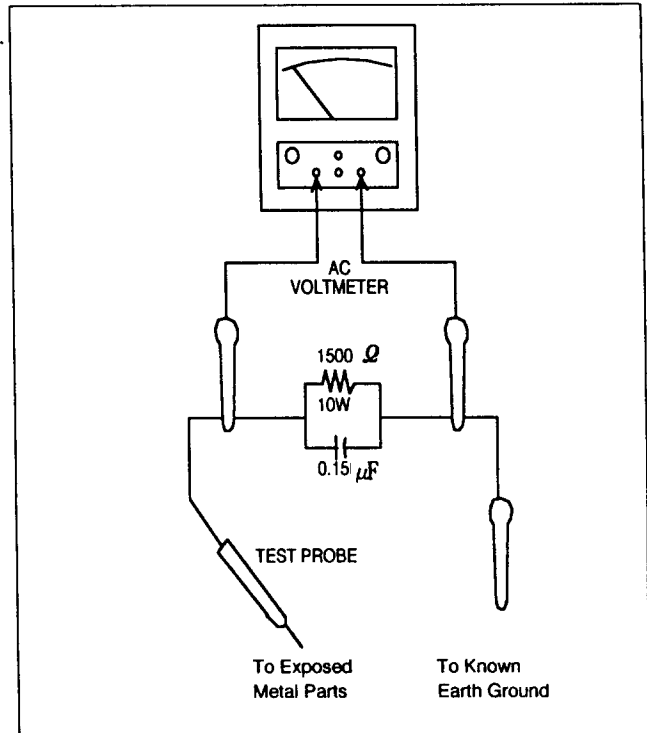

Figure1. Leakage Current Test Circuit
- ① Plug the AC line cord directly into a 120volt AC outlet. (Do not use an isolation transformer for this test)
- ② Using two clips leads, connect 1.5 kohm, 10 watt resistor paralleled by a 0.15uF capacitor in series with all exposed metal cabinet parts and a known earth ground, such as electrical conduct or electrical ground connected to earth ground.
- ③ Use a SSVM or VOM with 1000 ohms per-volt or higher sensitivity to measure the AC voltage drop across the resistor. (See Figure 1.)